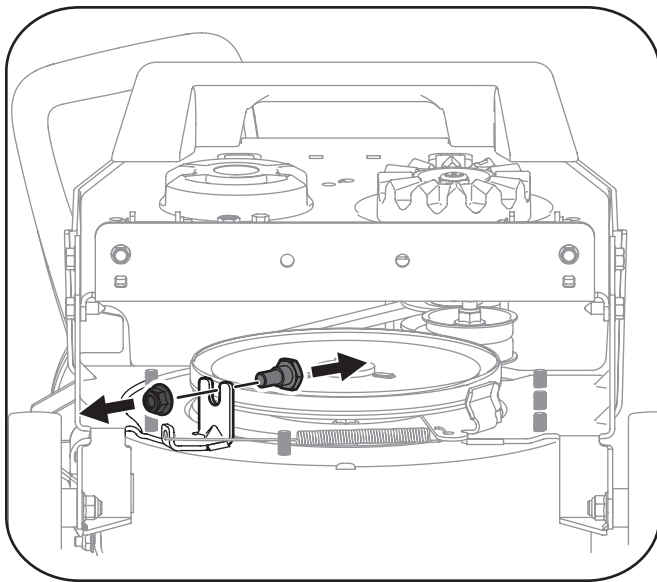

Figure 7-5
5. Remove the belt keeping should bolt and lock nut and retain for later reinstallation. See Figure 7-5.